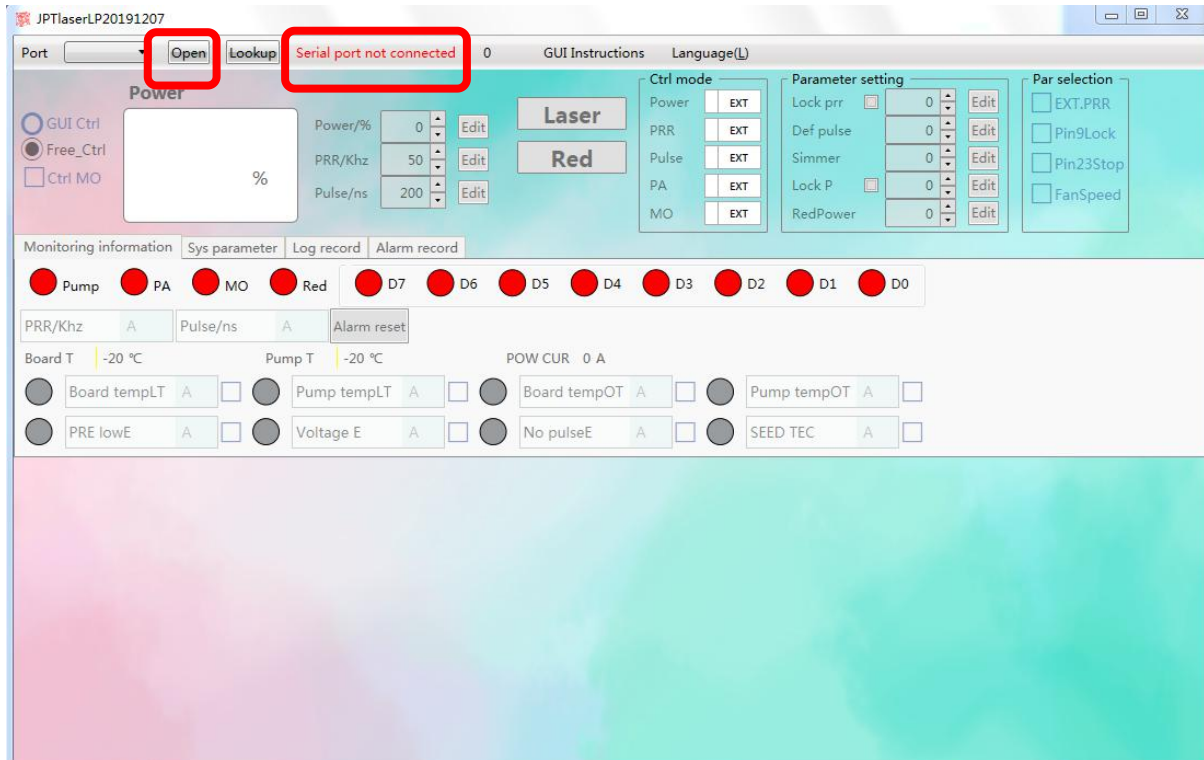

Figure 14 GUI disconnected state
- The Pin22 signal needs to be turned on 10us in advance before sending Pin2 and Pin3 signals. After finished pulse width adjustment, Pin2 and Pin3 signals need $\geq 10\mu s$ delay before turning off Pin22 signal (as shown in Figure 14).